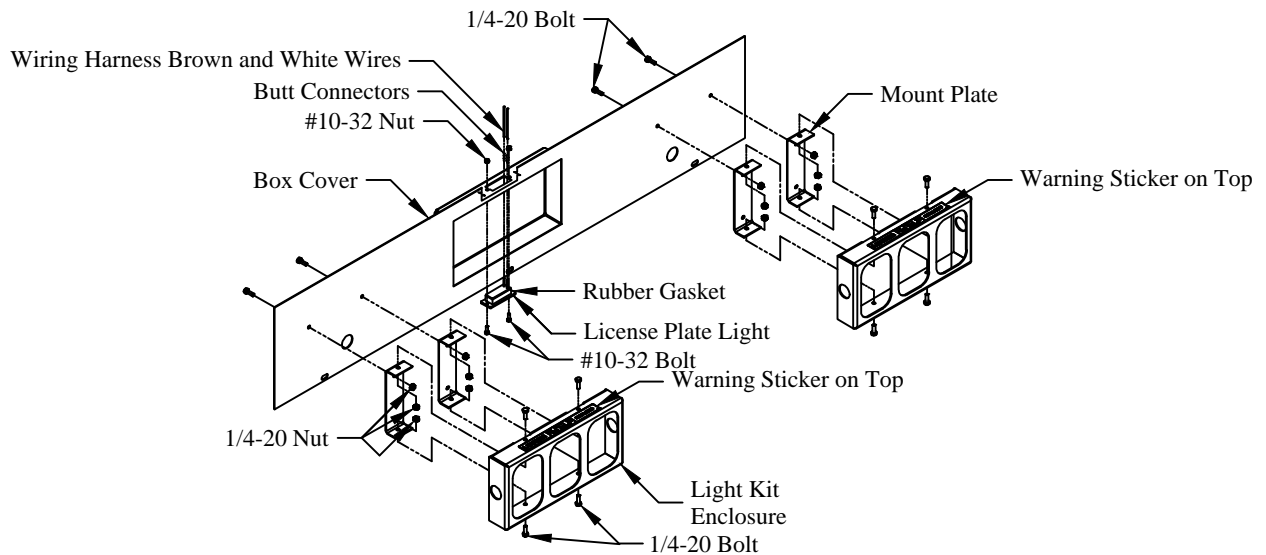

Figure 6: Box Cover Assembly
- 1. Loosely Attach** two (2) mount plates to the back of each enclosure using two (2) 1/4-20 nuts and bolts per mount plate (Figure 6).
- 2. Loosely Attach** each enclosure to the box cover using one (1) 1/4-20 nut and bolt through the upper hole of each mount plate (Figure 6).
- 3. Tighten** the twelve (12) nuts and bolts attached in steps 1 and 2.
- 4. Ensure** the rubber gasket is in place on the license plate light (Figure 6).
- 5. Mount** the License Plate Light using two (2) #10-32 nuts and bolts (Figure 6).
- 5. Splice** the license plate light wires to one pair of the blunt-cut white and brown wires (Figure 6).